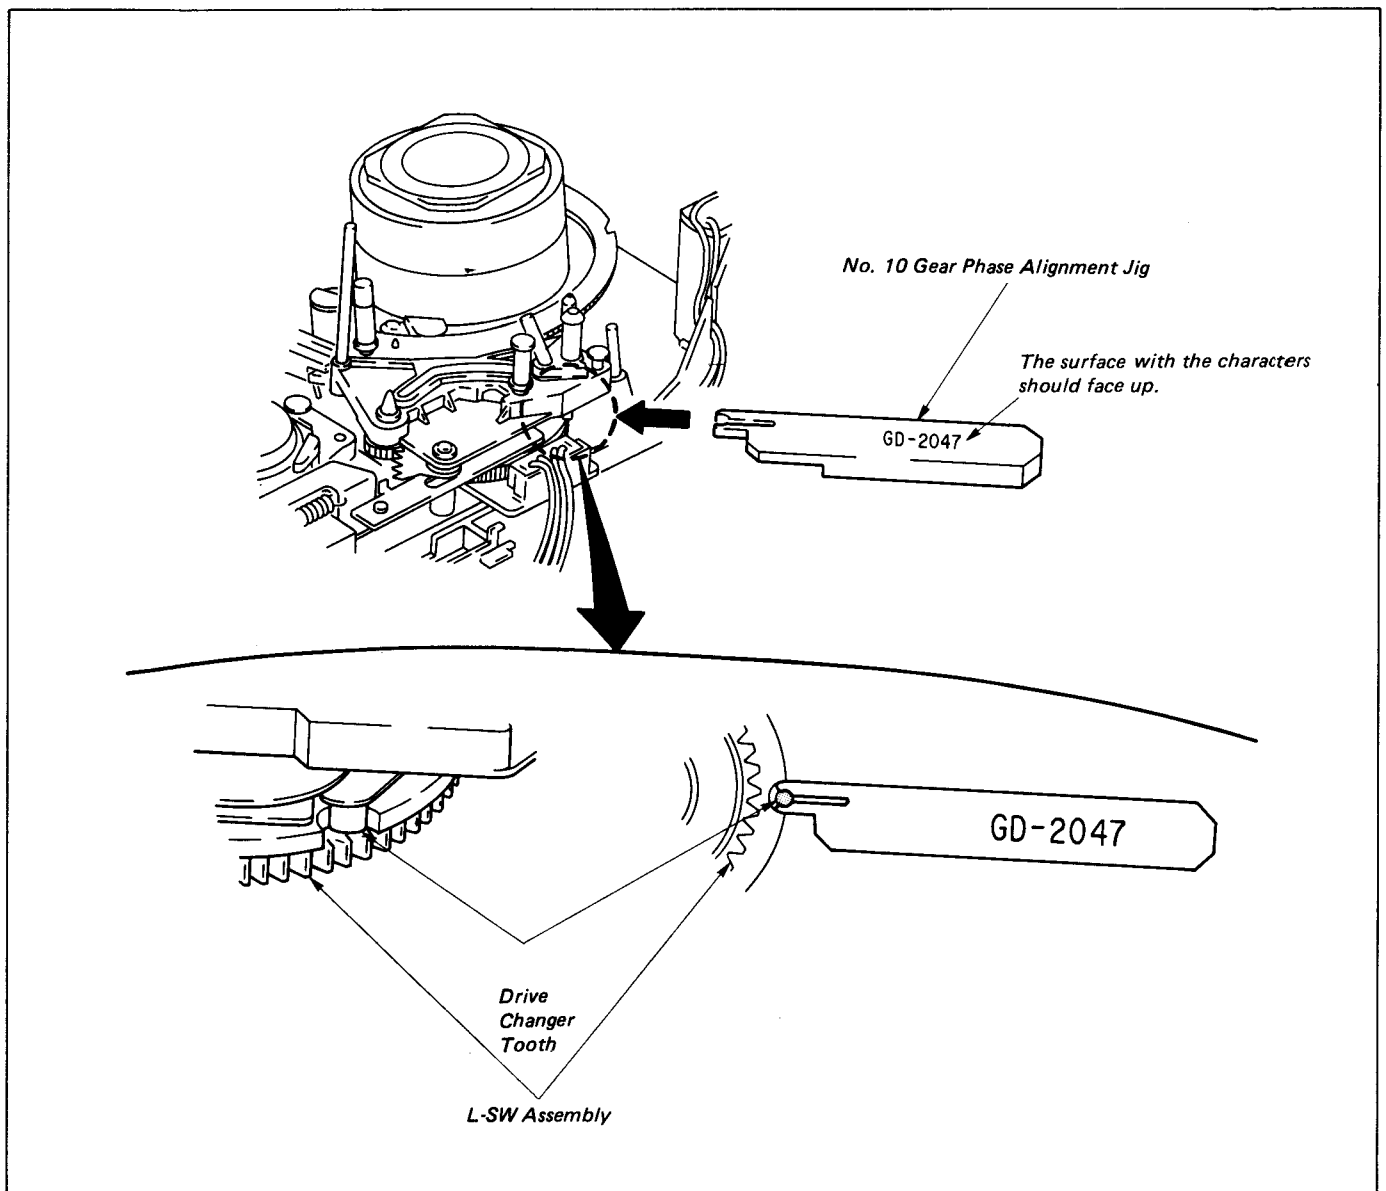

Fig. 1-16
- 5) Check that the tooth of the drive changer is engaging the dent of the L-SW assembly and plug the No. 10 gear phase alignment jig (Ref. No. J-9) (See Fig. 1-16.)
- 6) Remount the No. 10 gear ⑤ and stop washer ④ pressing the No. 8 guide ⑫ to the ring stopper ③.